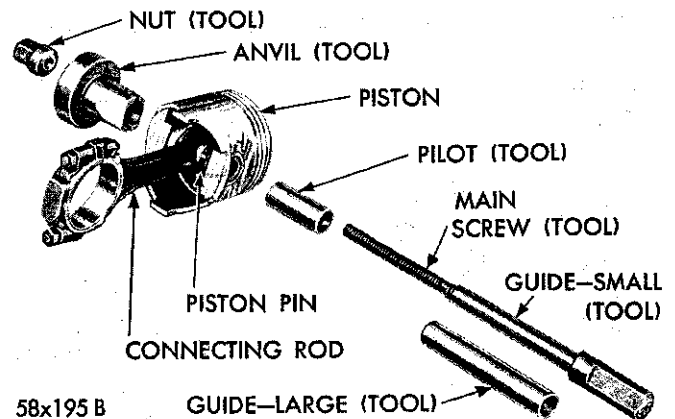
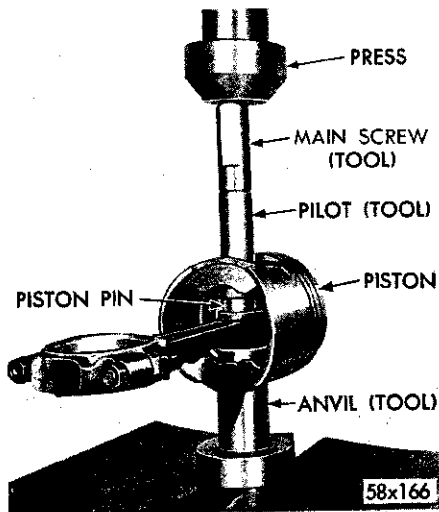
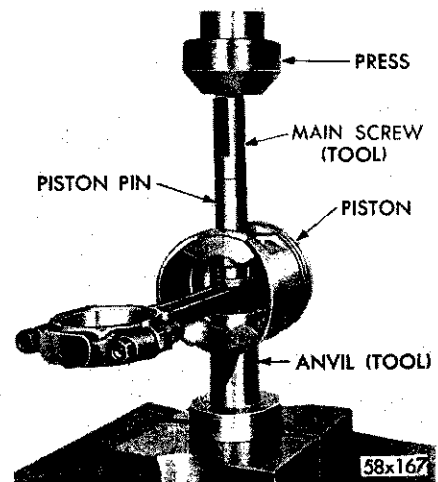

Fig. 38—Tool Arrangement for Removing Piston Pin
Fig. 39—Removing the Piston Pin from the Connecting Rod
Fig. 41—Installing the Piston Pin in Connecting Rod
- (1) Arrange Tool C-3684 parts for the removal of piston pin, as shown in Figure 38.
- (2) Install pilot on the main screw.
- (3) Install the main screw through the piston pin.
- (4) Install anvil over the threaded end of the main screw with small end of anvil against the piston boss.
- (5) Install nut loosely on the main screw and place the assembly on a press, as shown in Figure 39.
- (6) Press the piston pin out of the connecting rod.
- (7) Remove the tool from the piston.
- (8) Install the nut on puller screw to hold the assembly together. Place the assembly on a press, as shown in Figure 41.
- (9) Press in the piston pin until the piston pin "bottoms" on the pilot properly, positioning the pin in the connecting rod.
- (10) Remove the tool and arrange tool parts and piston assembly in the same manner, as shown in Figure 38.